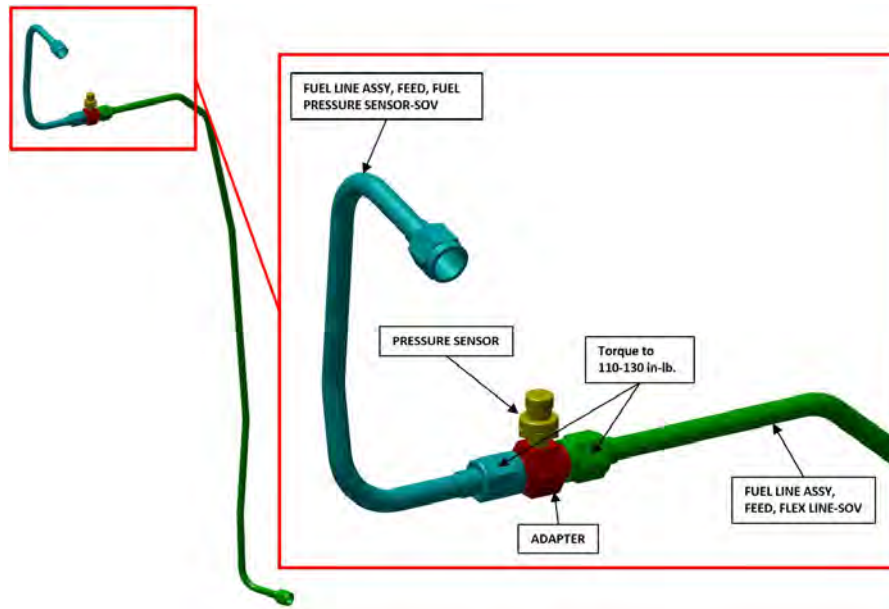

FIGURE 14-86
4. Remove PRESSURE SENSOR. Use backing wrench to hold the fuel pressure sensor adapter in place prior to loosening up the sensor. (See Figure 14-86.)
2. Apply THREADLOCKER to threads of the PRESSURE SENSOR. Install PRESSURE SENSOR 2 to 3 turns past finger tight into the fuel pressure sensor adapter. (See Figure 14-86.)